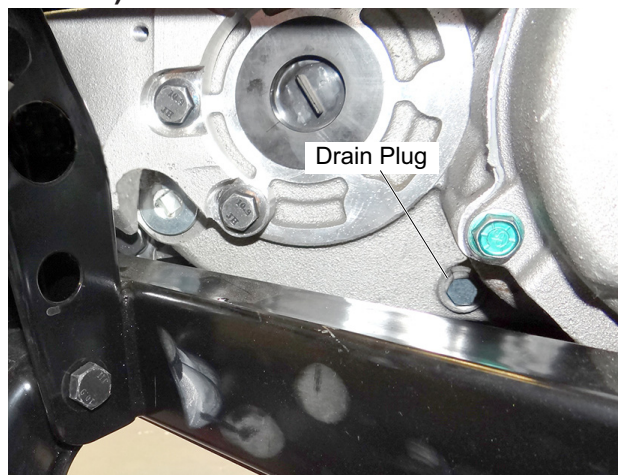

Fig. 13 Drain Plug
2. Remove the oil drain plug located on the bottom of the differential and allow the oil to drain completely (Ref. Fig. 13).